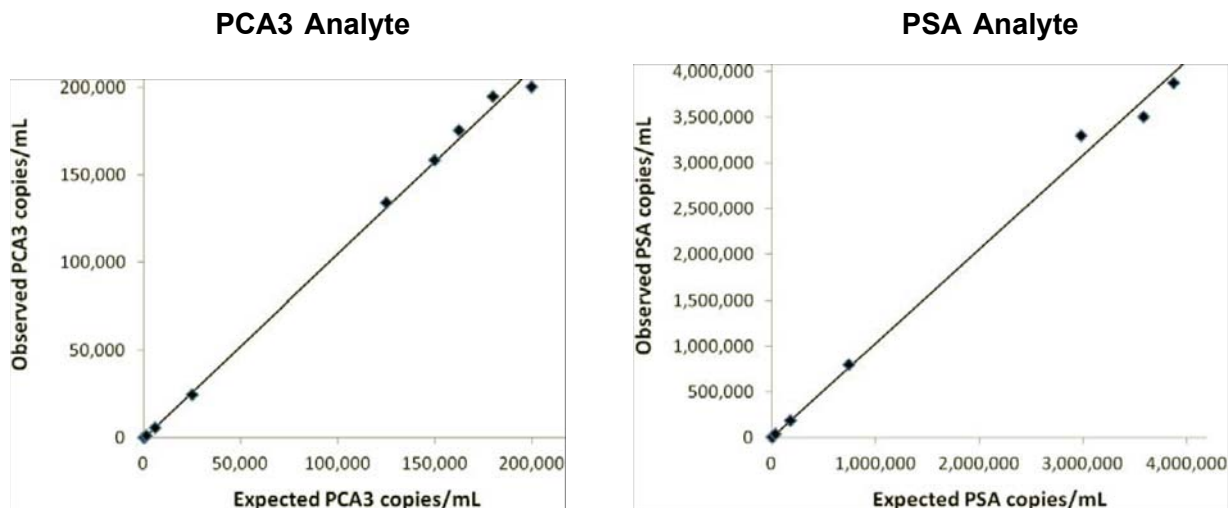

Figure 5. Progensa PCA3 Assay Linearity for PCA3 and PSA Analytes, Transcript Samples
One operator performed 4 Progensa PCA3 Assay runs on DTS Systems; each run contained 2 sets of the 11-member linearity panel. Results were analyzed using regression analysis according to CLSI EP6-A (4). Results of weighted linear regression analysis are presented in Figure 5 .